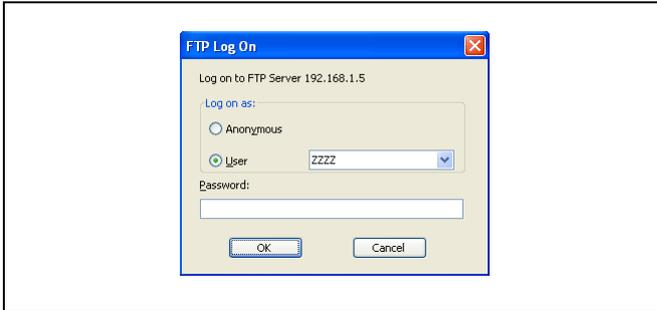

Fig. 3.16 FTP Log on Dialog
3.13 Using FTP Access – Fig. 3.16